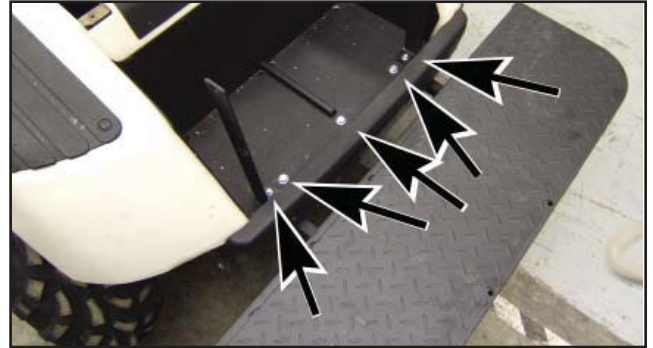

Fig. 2 - Install Foot Rest & Deck Supports
- 1) Place the rear footrest up under the rear frame, and align with the existing holes in the bag well area. Use the 7/16" X 2 " bolts in the center three holes. Before inserting the outside two bolts, you might need to enlarge the bolt holes slightly in your cart by running a 5/16" drill through them. Then place the Cargo Deck Support Brackets into the bag well area and insert the longer 2 1/2" bolts through them. ONLY finger tighten the Cargo Deck Support Brackets at this time. See Fig. 2. You will need the following hardware: